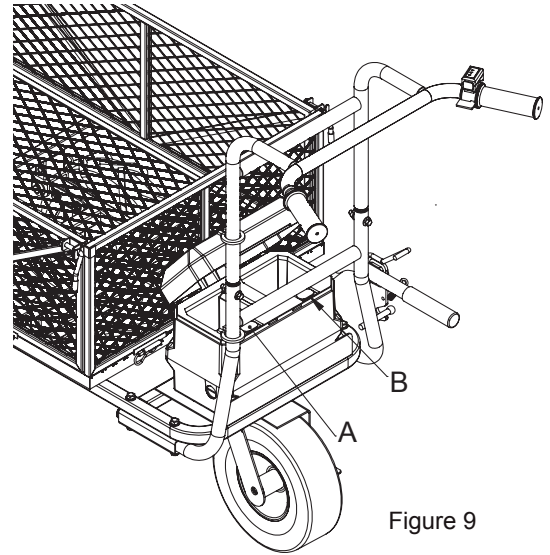

Figure 9
1. Open the battery box, turn on the power switch (A), there are 2 battery compartments, make sure the battery switch button on the right position (B) (See Figure 9)